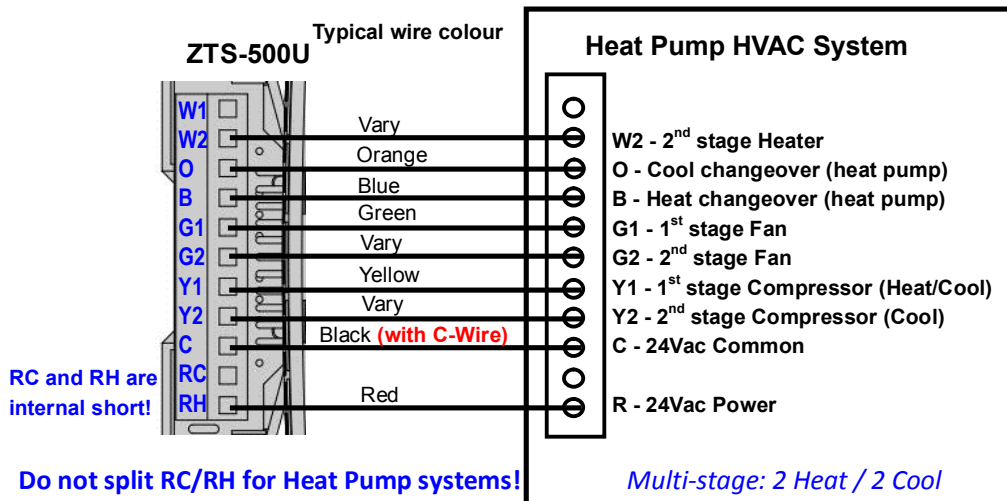

Figure 10. Heat pump HVAC system wiring
- For Heat Pump HVAC systems, please refer to figure 10, 11, and 12.